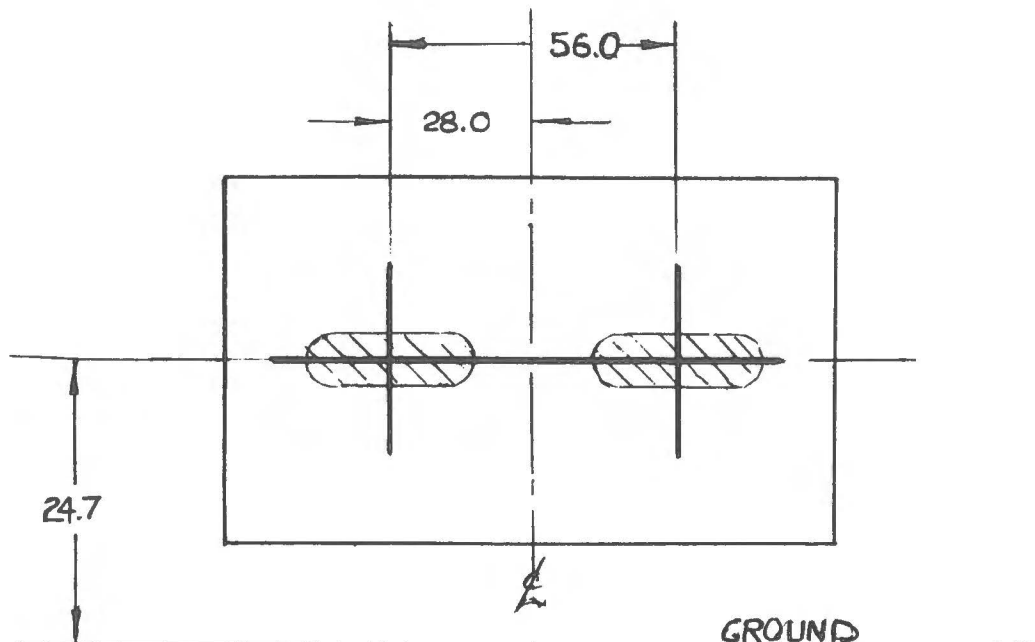

Fig. 6 - Pattern for high beam aiming.
To aim the headlamps, use an aiming screen, or a light-coloured wall as shown in Fig. 6. The vertical dimension to the horizontal line should be equal to the height of the headlamps above the ground less 1 inch for the particular car being checked. This is to make allowance for suspension height variations.
(3) With the headlamps on high beam, adjust the lights so that the centre of the beam coincides with the intersection of the horizontal and vertical lines shown in Fig. 6.